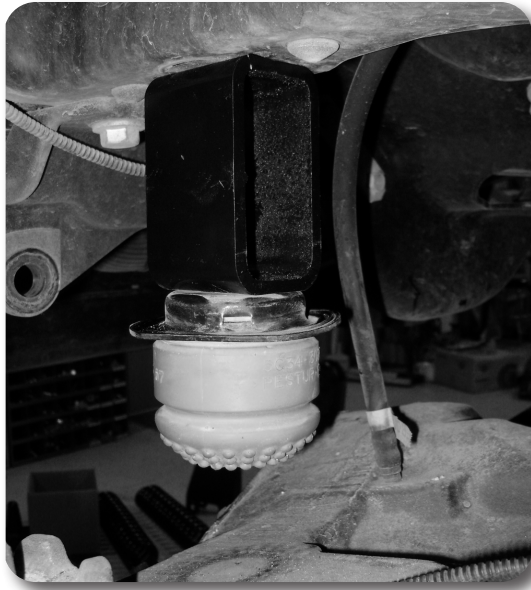

Figure 9
23. Reinstall the retainer cups on the frame along with the provided 4" tall bump stop spacers. Fasten with a provided 8mm x 100mm bolt and washer. **Figure 9** Apply Loctite to the bolt and torque to 15 ft-lbs. Reinstall the factory bump stop into the retainer cup.